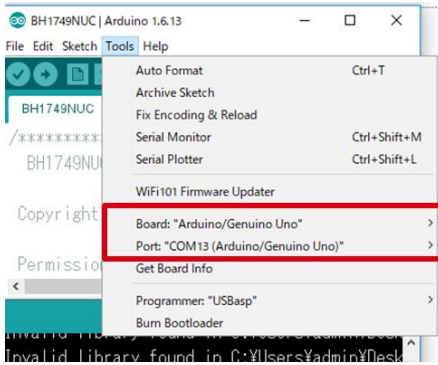

Figure 3. COM Port setting
1. Select [Tools] and check the contents enclosed in the red frame. (Figure 3) Board should be "Arduino/Genuino Uno". Port should be COMxx (Arduino/Genuino Uno). COM port number is different in each environment.